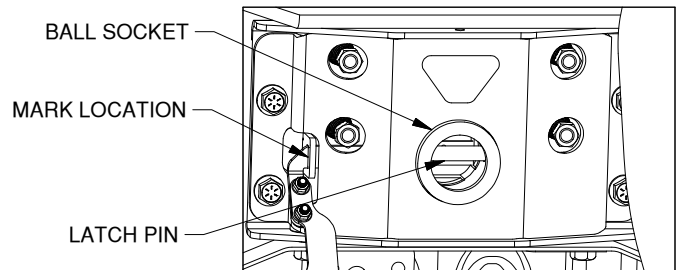

Figure F1: View under bed looking up at center section.
6. **Check latch pin engagement.** When installed properly, the latch pin mechanism should pass through both sides of the ball socket. With the ball removed, push handle toward the rear of the truck until the handle retracts and the latch pin engages. Visually inspect the ball socket and check to be sure the latch pin has passed completely through the socket. Make a mark on the latching mechanism where indicated in Figure F1 to show where the latching mechanism should be when the pin is correctly positioned in the ball socket. Retract the pin, replace the ball, and re-engage the pin. Check the marked location on the latching mechanism. If the mark is in the same location as when the mark was made, then the latch pin has gone completely through the ball socket.